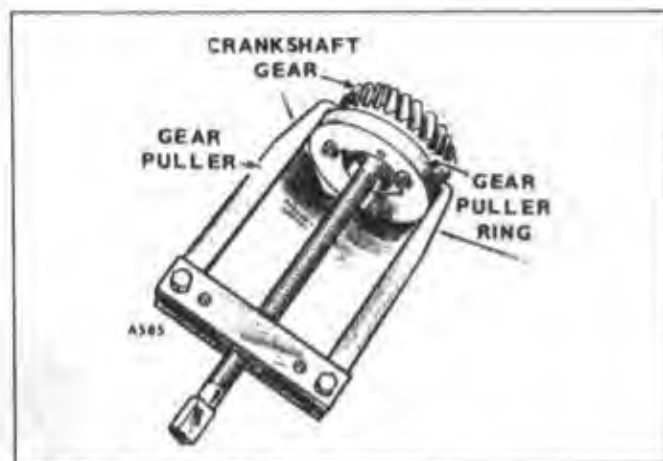

Figure 8. Removing Crankshaft Gear
2. Pull off the crankshaft gear. It has 2-1/4-20 UNC tapped holes for attaching a gear pulling ring. Use care not to damage teeth if the gear is to be re-used. (Fig. 8).